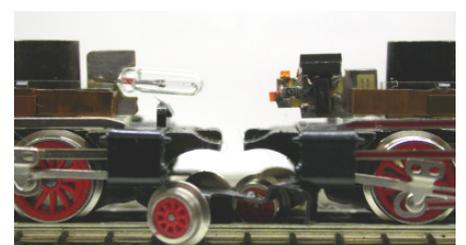

figure 5: BR 74 and BR 24, on the left with a bulb, on the right with a white receptacle in the small version. Below at the undercarriage the removed tappet.
9. On articles 7022 and 7032 for BR 24 and BR 74 you have to remove the black tappet in front of the bulb fitting below on the plastic. This tappet does not have to do anything with the fastening of the body and just stand in the way of our electronics. Now the component can also fit in horizontally. The difference can be seen clearly in figure 5.